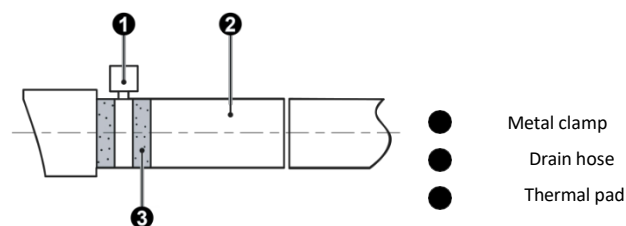

Fig. 4.3.2
- ① Insert the drain pipe into the drain hole and secure it with tape, as shown in Fig. 4.3.2. This model comes with a drain pipe, while for other models, you must provide the drain pipe yourself.
- ② Tighten the hose clamp, maintaining a gap of less than 4 mm between the screw nut and the hose.